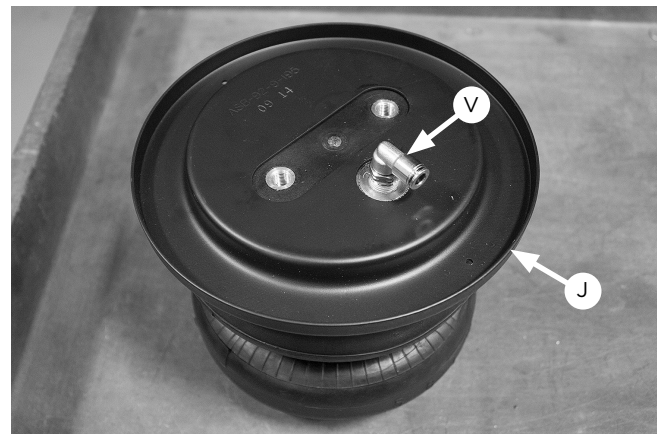

Fig. 6
1. Install the swivel elbow fitting (V) into the top of the air spring finger-tight. Tighten the swivel fitting an additional one and a half turns. Place a roll plate (J) on top of the air spring (Fig. 6).